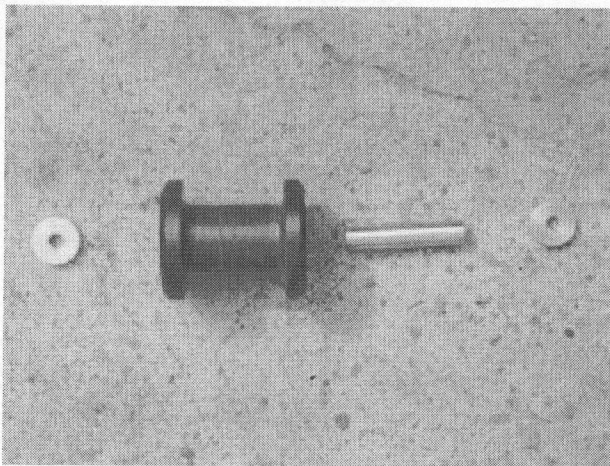

Fig. 029
4. Remove roller axle (A) of the relevant running roller (F) and mount the new running rollers (Fig. 029).